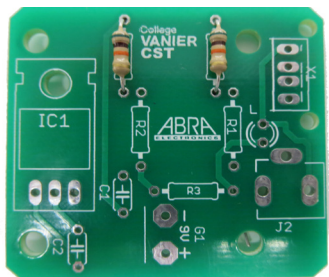

Fig. 1
1. Install and solder R4 and R5 (51K) resistors as per fig. 1. Trim leads with diagonal cutter.